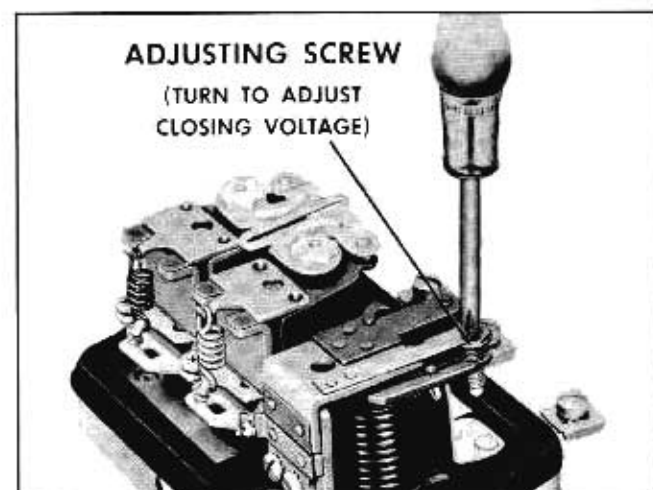

Fig. 11-20 Adjusting Closing Voltage
3. Adjust the closing voltage by turning the adjusting screw (Fig. 11-20). Turn the screw clockwise to increase the setting and counterclockwise to decrease the setting.